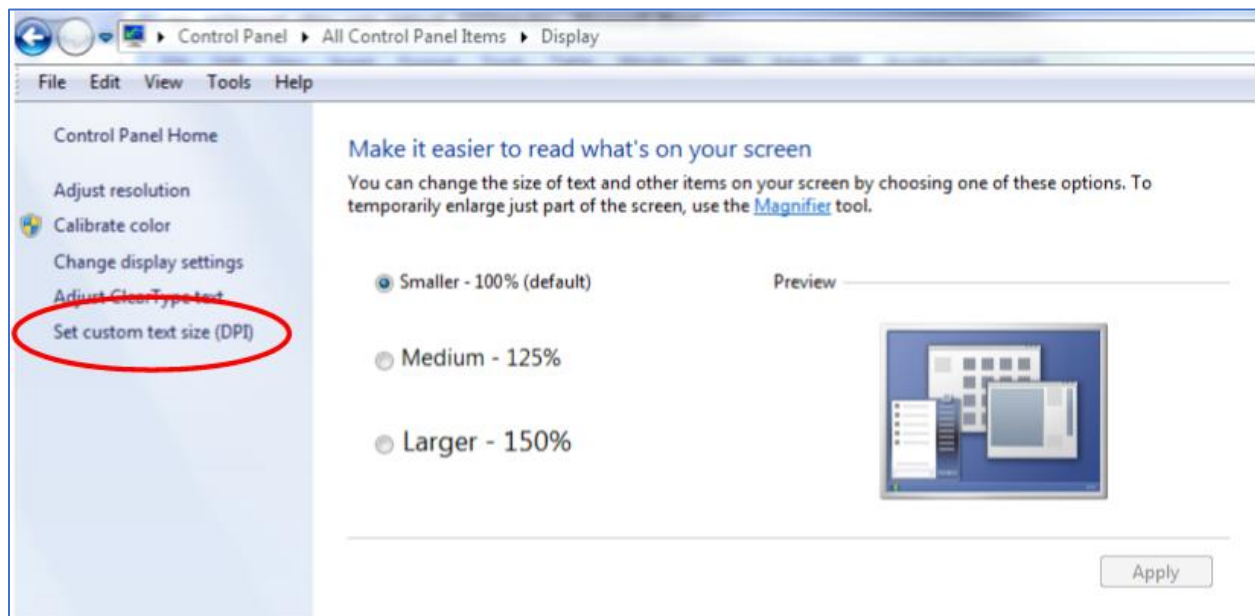

Figure 244: Display Window, Set Custom Text Size Option
3. The Display window contains an options menu. Click on Set custom text size (DPI), as shown in Figure 244.